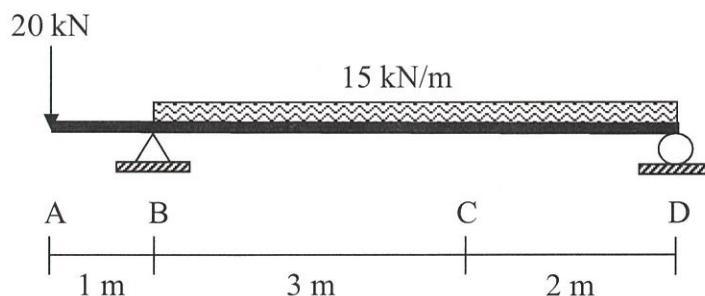

Figure A2(a) / Rajah A2(a)
- (a) The overhanging beam is subjected to a point load and uniformly distributed load as shown in Figure A2(a). By using Influence Lines Diagram Method, calculate: